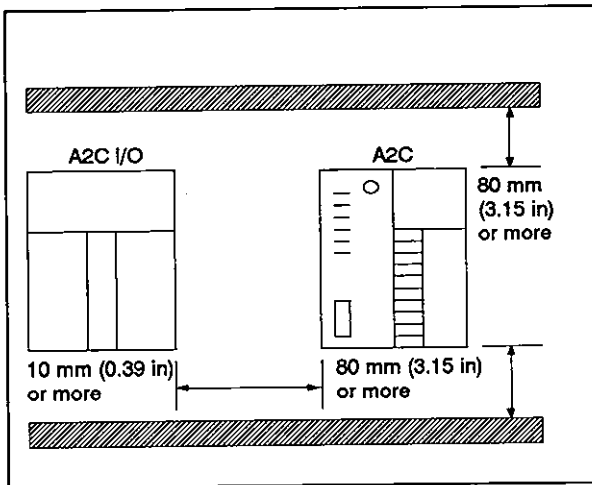
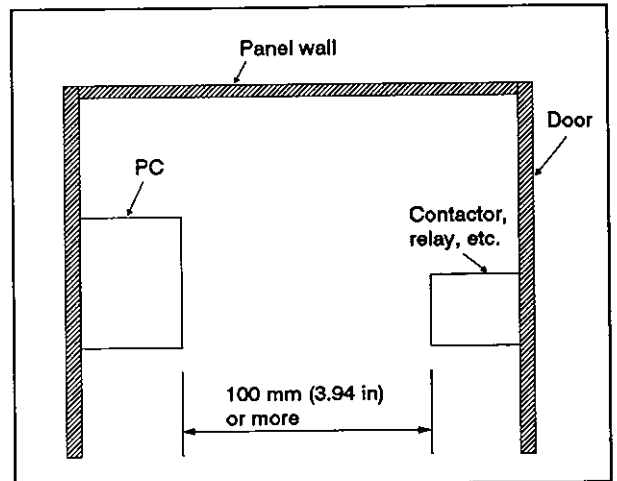

Fig. 6.1 Installing Position
Fig. 6.2 Clearance between PC and Other Devices
- (1) To provide good ventilation and to make module replacement easy, allow a clearance of 80 mm (3.11 in) or more between the top side of the module and surrounding structures or parts. (See Fig. 6.1.)
- (2) If the A2C I/O module, A66PC or other module is to be installed on the left side of the A2C, provide a clearance of 10 mm (0.39 in) or more between them to allow Cover 1 to be opened and closed.
- (3) Mount the module on a separate panel or away from large electromagnetic contactors and no-fuse circuit breakers which produce vibrations.
- (4) To avoid influence of noise or heat radiation, allow a clearance of 100 mm (3.94 in) or more if the A2C faces such noise or heat radiating devices (when such devices are mounted on the back side of the door). (See Fig. 6.2.) Also, allow a clearance of 50 mm (1.97 in) or more between the side face of the A2C, A2C I/O or other modules and devices.